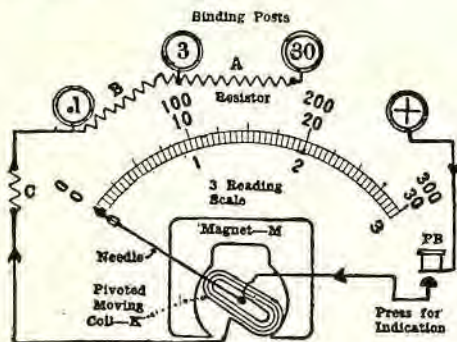
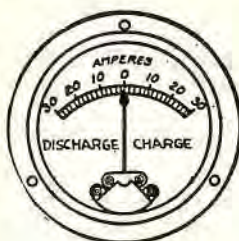
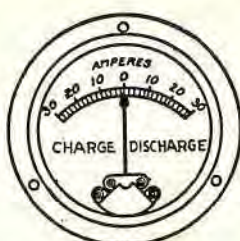

Fig. 15. Internal connections of the Weston model 280. The D'Arsonval or moving-coil principle.
Fig. 18
Fig. 18A
The moving coil of model 280 voltmeter and ammeter is designed for a passage of 100 millivolts (or .1 of a volt) through the coil. If this amount of voltage passes through the moving coil (K) (Fig. 15), it will cause the coil to move its maximum distance of travel across the scale. As the needle moves with the coil, it would give a full-scale deflection of the needle, that is, the needle would move from 0 at the left of the scale, to the extreme right. Thus it will be noted that one-tenth of a volt (.1), or 100 millivolts, which is the same, is the voltage required to cause the needle to give its maximum or full-scale reading. This voltage is used for the instrument when it is used as an ammeter or as a voltmeter.
When the instrument is used as a voltmeter, the shunt is not used, but resistance is used as shown in the figure of the meter in Fig. 15.
The ammeter circuit: The meter terminals (when used as an ammeter) are always connected from one terminal (M) of the shunt, which is the (+) side, where the connection of the copper bar makes contact with the manganin, thence to the (+) terminal of the meter, through the moving coil in the meter (Fig. 15), to the 100-millivolt terminal, or .1 terminal, of the meter, to the terminal (M1) on the shunt (Fig. 14A) which is the (-) or other end of the manganin.
We will now see what would cause the needle to deflect a full-scale deflection and show 30 amperes. The reading is made on the second scale, 0 to 30 (Fig. 15), because we are using a 30-ampere shunt.
Therefore, as the meter terminals are connected with the manganin at each end (M) and (M1), this difference of one-tenth (.1) of a volt, which represents the millivolt drop, would pass through the coil of the meter, and the needle would have moved to the extreme right and would read 30 amperes on the scale (Fig. 15).
When the instrument is used as a voltmeter, the same coil winding as shown in Fig. 15 is used, and it is necessary to have the same 100 millivolts or .1 volt drop, just the same as when it is used as an ammeter, but the shunts are not used to obtain this drop. Resistances (C), (B), and (A) are used (Fig. 15). This resistance is in series with the meter circuit and its connections to the main circuit being tested. Note, however, that the voltmeter connections are across the line of the main circuit.
Note on Fig. 15: When button (PB) is pressed down, the circuit is from the (+) terminal of the meter, through the moving coil (K), to the terminal being used.
Cadmium scale: A scale for making cadmium tests of a storage battery, as explained in the storage battery instruction, has been added to the Weston model 280 instrument. This is not shown in the illustration (Fig. 15).
The scale in Fig. 15 has added to it four lines to the left of "0," the first line being one-half of one-tenth of a volt, or .05 of a volt, or 1/20 volt. The second line would be .1 (one-tenth) of a volt; the third line would be .15, or 3/20 volt, and the fourth line would be .2 or 1/5 volt. This scale is used for cadmium readings when testing a storage battery, and is explained in the storage battery instruction.
D'Arsonval type: Refer to Fig. 15. Note the permanent magnet (M) which has a permanent N and S pole polarity. A fine, light spiral spring (not shown) serves to lead the current into and out of the moving coil (K), and also to keep the coil in its zero position and to provide a force against which the magnetic action of the current in the coil acts.
The dash ammeter of the moving-coil type (for direct current) is similar in principle to that shown in Fig. 15, except that it has internal shunts and its dial is calibrated to read in two directions. That is, the zero (0) is placed in the center of the dial, as shown in Fig. 18.
The standard now adopted by manufacturers of dash ammeters is to have the "charge" side on the left and the "discharge" side on the right of "0" (see Fig. 18A). There are many instruments which came into use before this recent standard was adopted, which read as shown in the illustration (Fig. 18). This makes no particular difference, however.